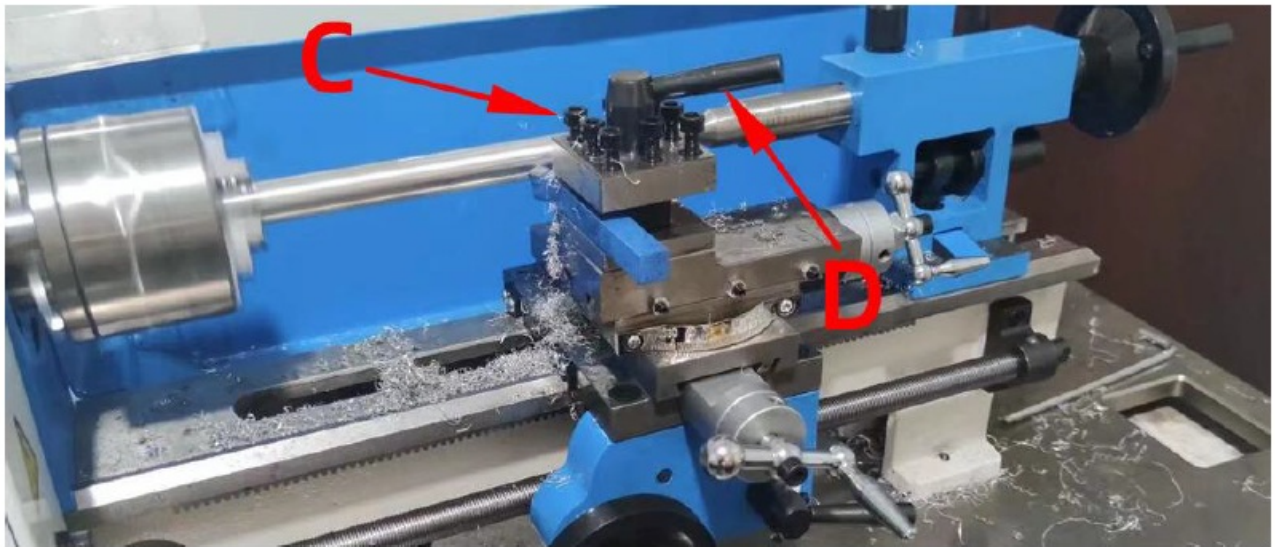

Fig.5 Tool rest adjustment
When you are going to adjust the tool post position, you only need to loosen the lever shown in(D)of Fig.5. After you have finished be sure to tighten. if you are going to replace the work cut- ter then you need to loosen the screws of (C) with the allen wrench provided.